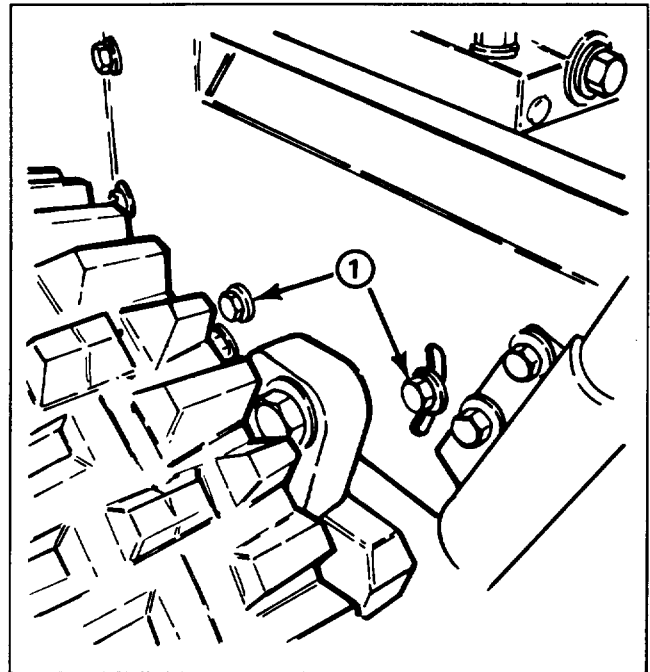

Figure 31
3. Loosen (4) flange head cap screws (2 each side) securing transmission frame to engine frame (Fig. 31).